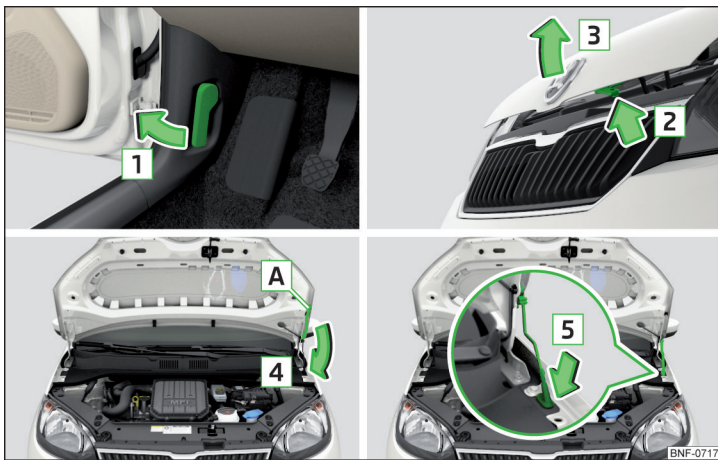

Fig. 106 Opening the bonnet
- Open the front door and pull the release lever below the dash panel in the direction of arrow 1 » Fig. 106.